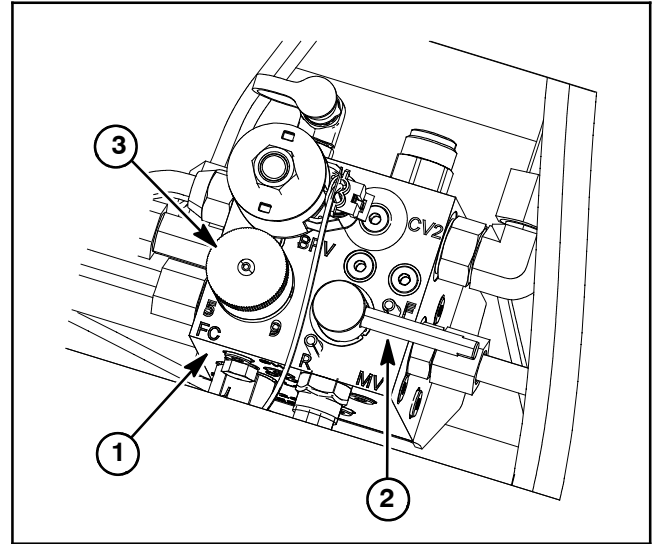

Figure 25
3. Raise seat, locate hydraulic mow control manifold and rotate directional valve lever fully to the R (backlap) position (Fig. 25). Rotate flow control valve knob to position 1.